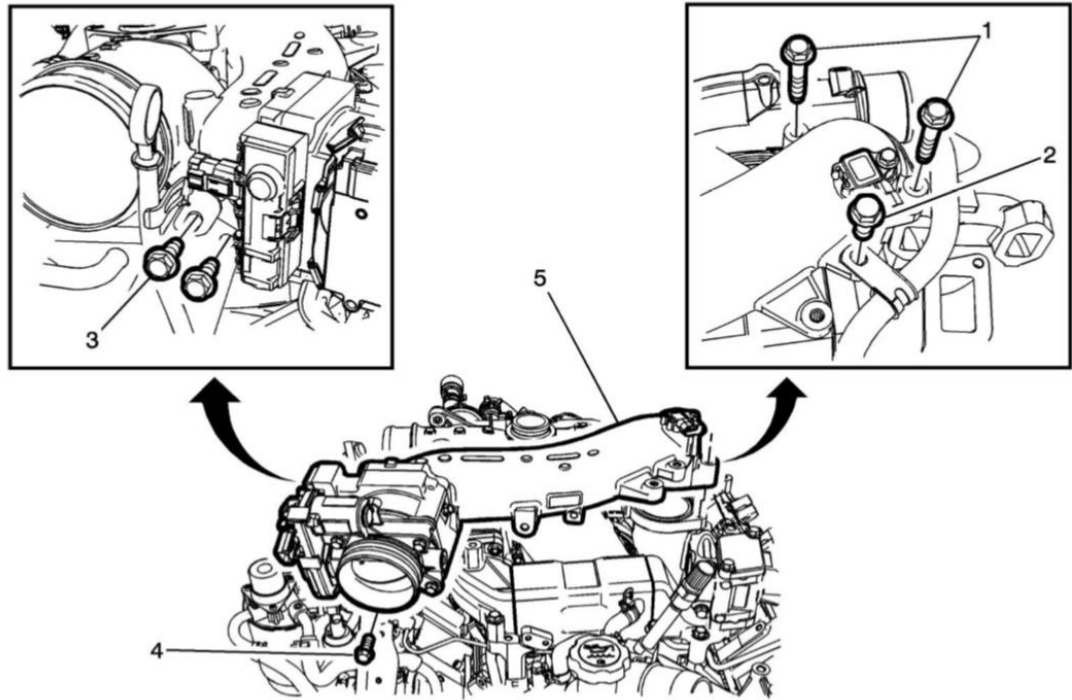

Fig. 1: Intake manifold tube
- a. Remove intake manifold tube. First loosen the two 13mm bolts affixing the pipe to the intake manifold near the MAP sensor. (see Fig. 1)
- b. Next, loosen the oil dipstick tube bracket bolts and the hidden 10mm bolt affixing the intake air heater ground bracket to the intake pipe. (see Fig. 1)